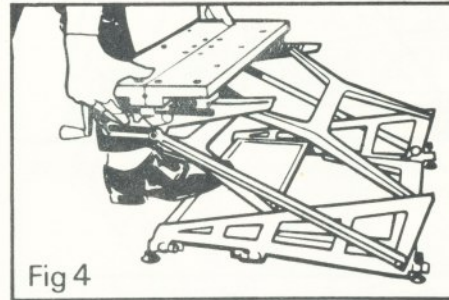
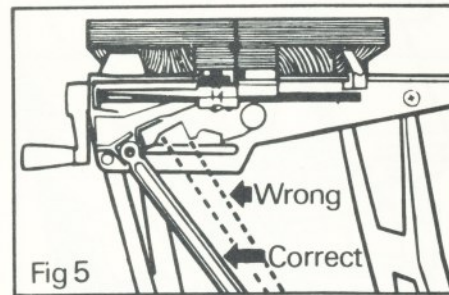

Fig 4
Fig 5
- 4 Allow all the feet of the Workmate to rest on the ground. Fig. 4. Release the retainer latches and push the vise bars up and away from you through the intermediate positions (see Fig. 5) until you can push no further.